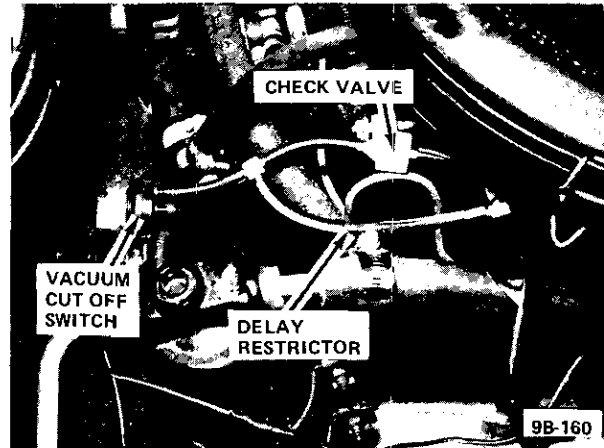

Figure 9B-64 Delay Restrictor and Check Valve Hose Assembly Location
5. Disconnect the delay restrictor and check valve hose assembly from the vacuum cut-off switch and disconnect the electrical wiring. See Figures 9B-63 and 64.